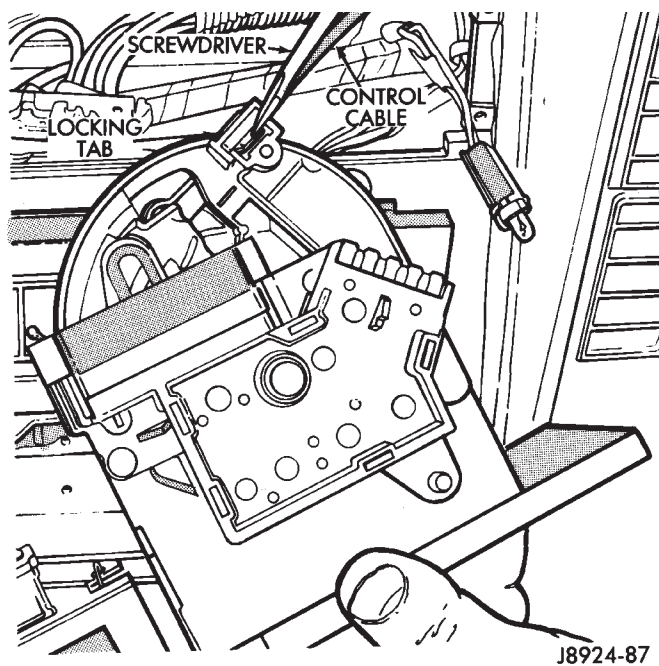

Fig. 7 Control Cable Locking Tab
- (8) Remove the control cable locking tab by using a screwdriver to release the tab (Fig. 7).